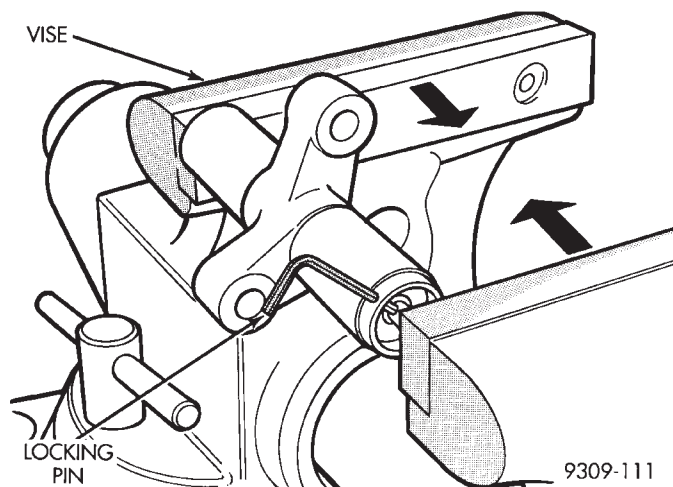

Fig. 70 Compressing Timing Belt Tensioner
(12) Place the tensioner into a vise and SLOWLY compress the plunger (Fig. 70). Total bleed down of tensioner should take about 5 minutes.